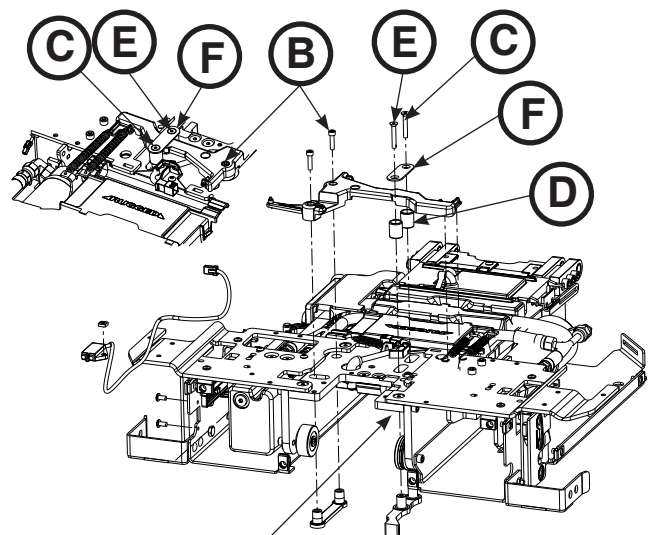

Figure 80
4. Using a 5/32" hex wrench, loosen (do not remove) the socket head cap screw (B) that secures the trolley mechanism arm (Figure 80).
5. Using 1/8" hex wrench, remove the flat head cap screw (C) that secures the link to the trolley mechanism arm and remove the trolley mechanism pivot pillar (D) (Figure 80).
6. Using a 1/8" hex wrench, loosen (do not remove) the flat head cap screw (E) that secures the front link (F) to the trolley mechanism arm and swing it out of the way (Figure 80).